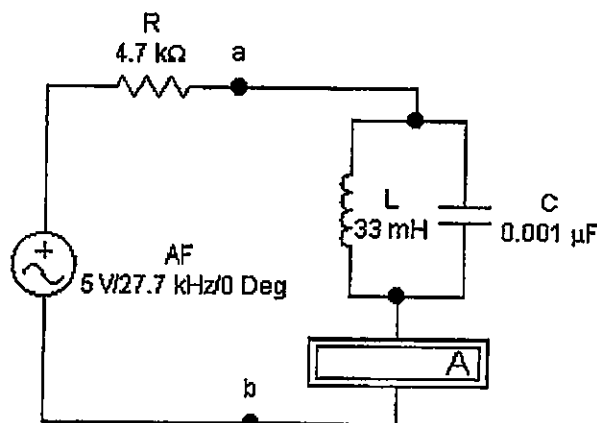

Fig 12.1
- 1- Set up the circuit of Figure 12.1.